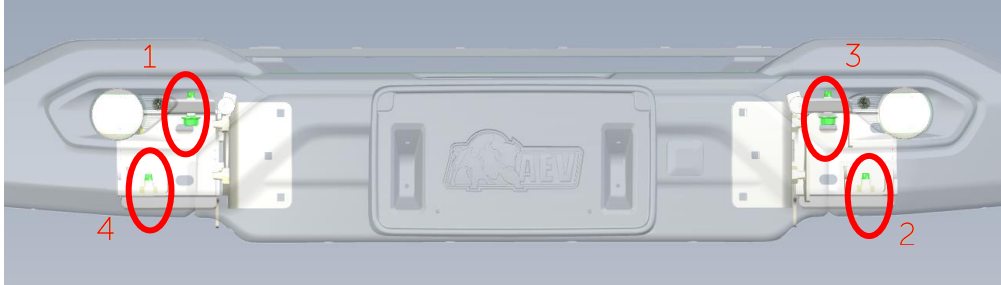

Figure 8 – M10 Torquing Sequence
- M10 Bolts - M15 socket – 58 +/- 3 Nm – Fig. 8